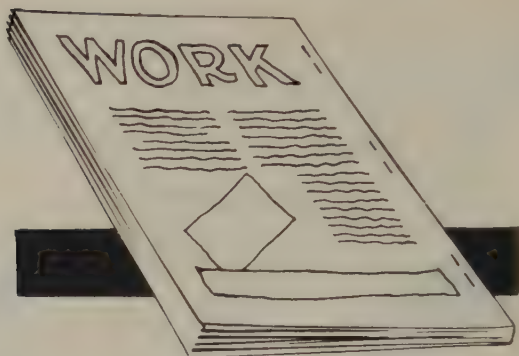

FIG. 148—CLINCHED SIDE OF WIRES BINDING MAGAZINE
3. Find the wire staples that hold book together. After finding staples lay book flat on table with the "clinched" side of staples uppermost. (Fig 148.)